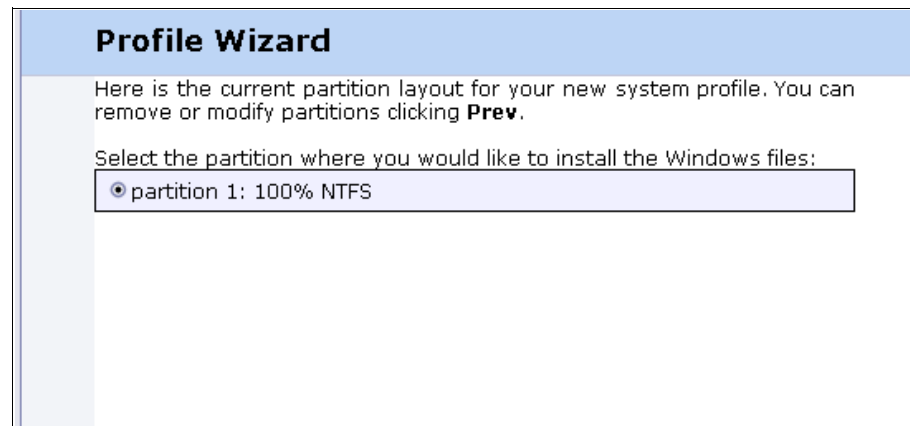

Figure 2-13 Confirm filesystem size and format
10. Next we confirm that we have defined one NTFS partition using 100% of the disk as shown in Figure 2-13 on page 27.